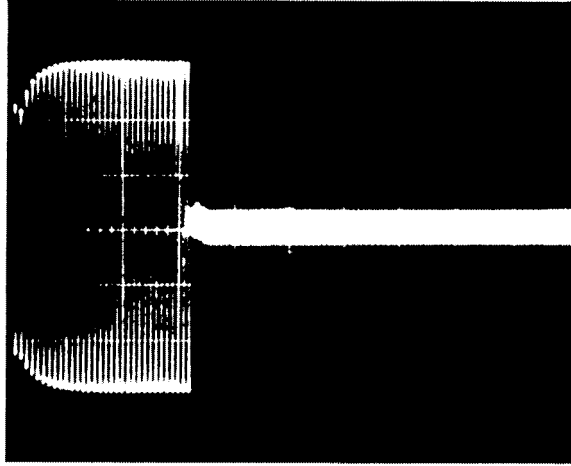

Figure 10b
7.2.4.2 Observe the output on the scope. Verify that the wave shape is substantially as shown in Fig. 10b, next page, and then verify for the other channel.